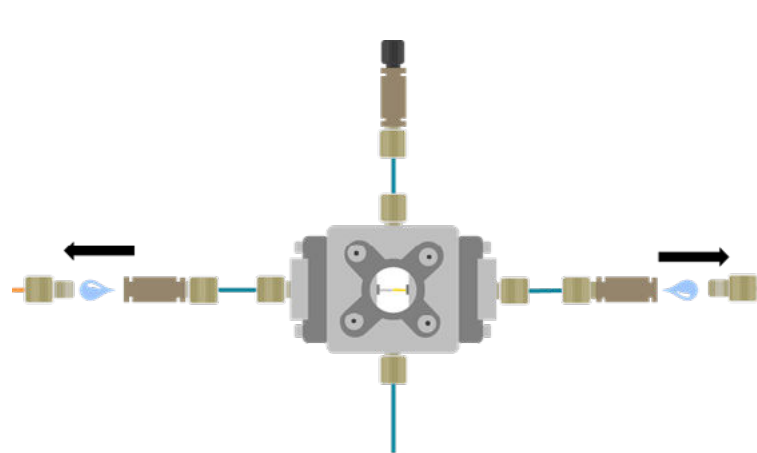

Figure 25: Disconnecting the Raydrop from the fluidic setup
- 1 Disconnect all the capillary of the RayDrop except the purge and place it vertically with the purge capillary at the top (Fig 25).